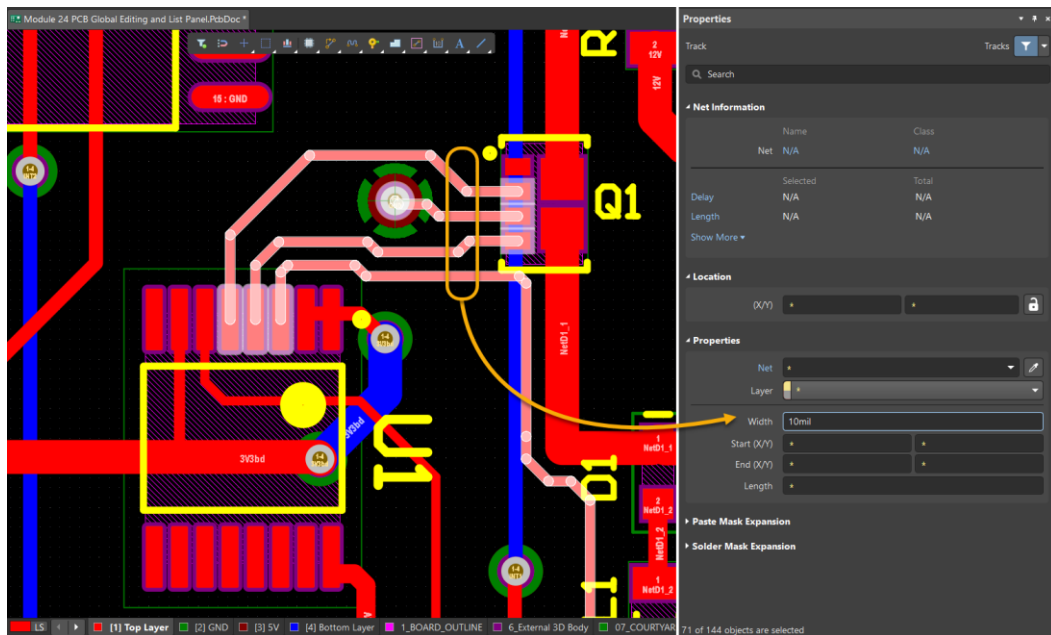

Figure 5. Board Layout with modified traces
14. In the *Properties* panel, locate the *Width* field and change the value from 12mil to 10mil and hit **Enter**. The changes will be reflected as shown in Figure 5 below.